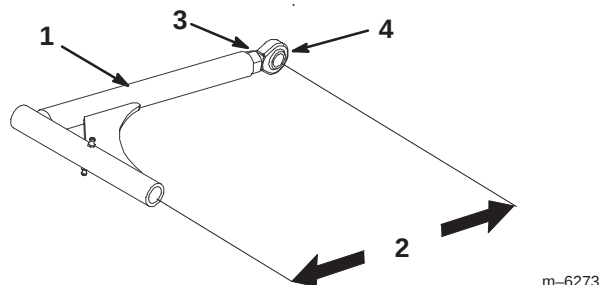

Figure 67
1. To adjust push arms, loosen jam nut and rotate ball joint counterclockwise, one turn at a time. (Fig. 67).
2. Adjust each side the same amount. Each push arm should have a nominal length of 15-5/16 inch (389 mm) (Fig. 67).